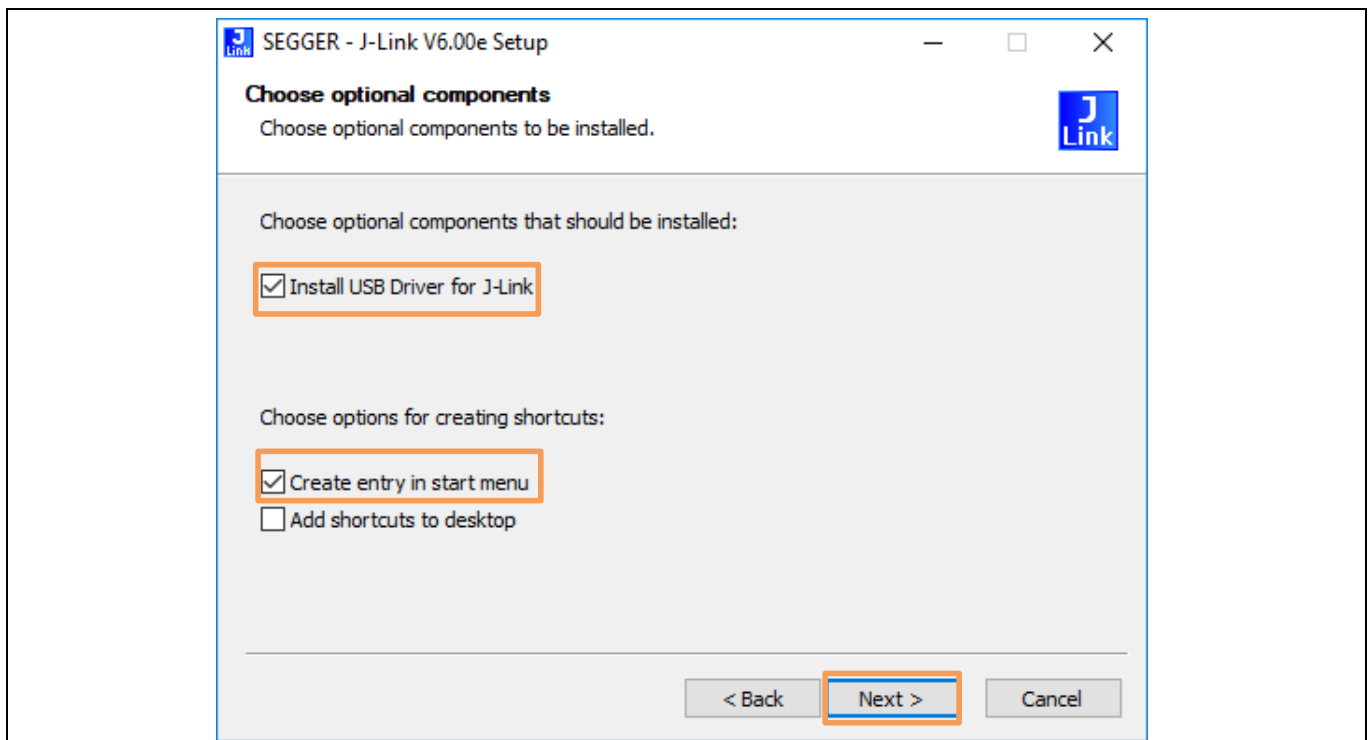

Figure 26 SEGGER JLINK Drivers – USB Driver Installation
- Select the check boxes as shown in the highlighted orange color box of Figure 26 and click **“Next”** button to continue with the installation.